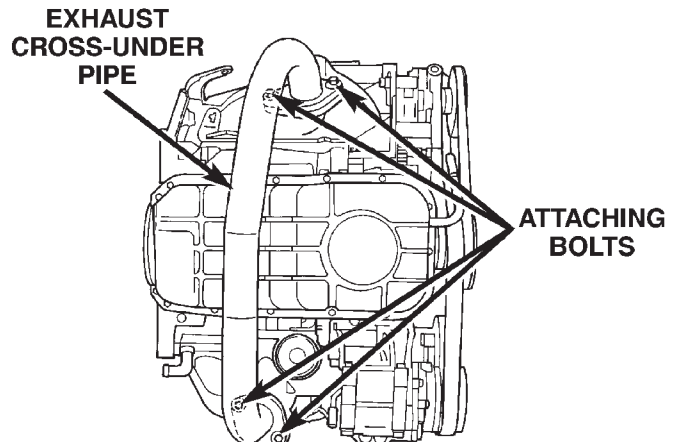

Fig. 39 Cross-Under Pipe Attaching Bolts
- (1) Raise vehicle and disconnect exhaust pipe from rear (cowl side) exhaust manifold at flex-joint. It may be necessary to remove the entire exhaust system. Refer to Group 11, Exhaust System for procedure.
- (2) Remove bolts attaching cross-under pipe to manifolds (Fig. 39). Remove assembly.